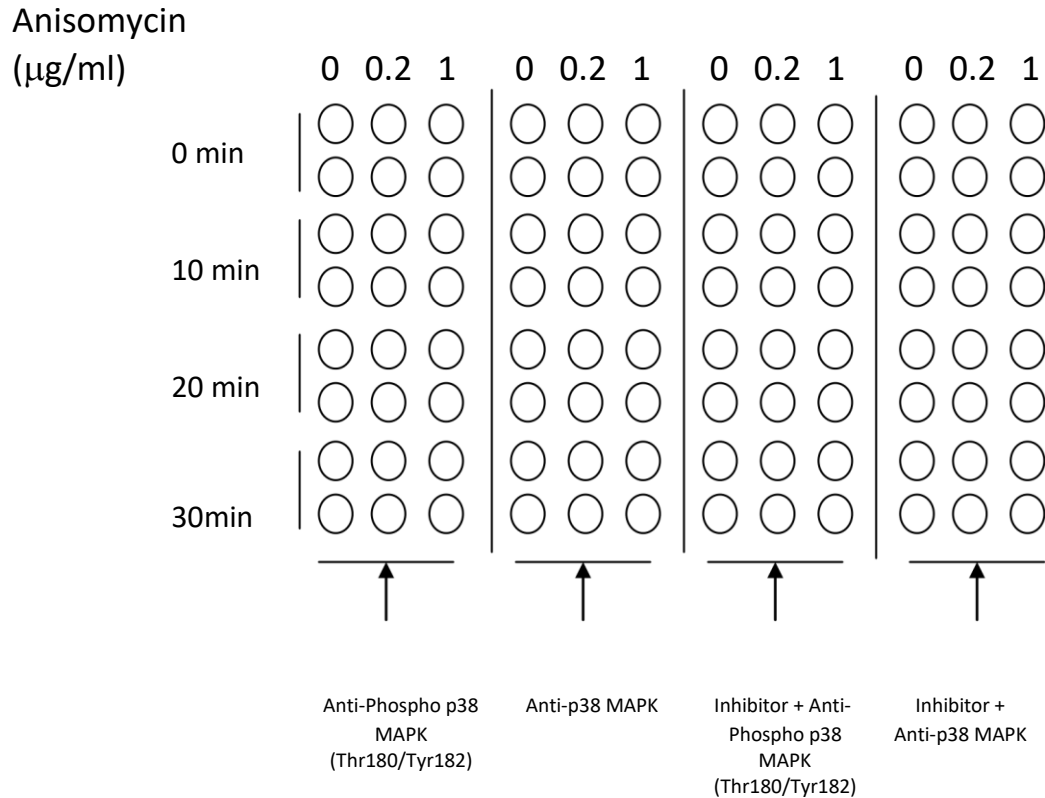

Fig. 2. Example of how to seed cells for LSBio® cell-based assay
1.Design your experiment. For example, see Figure 2 below.